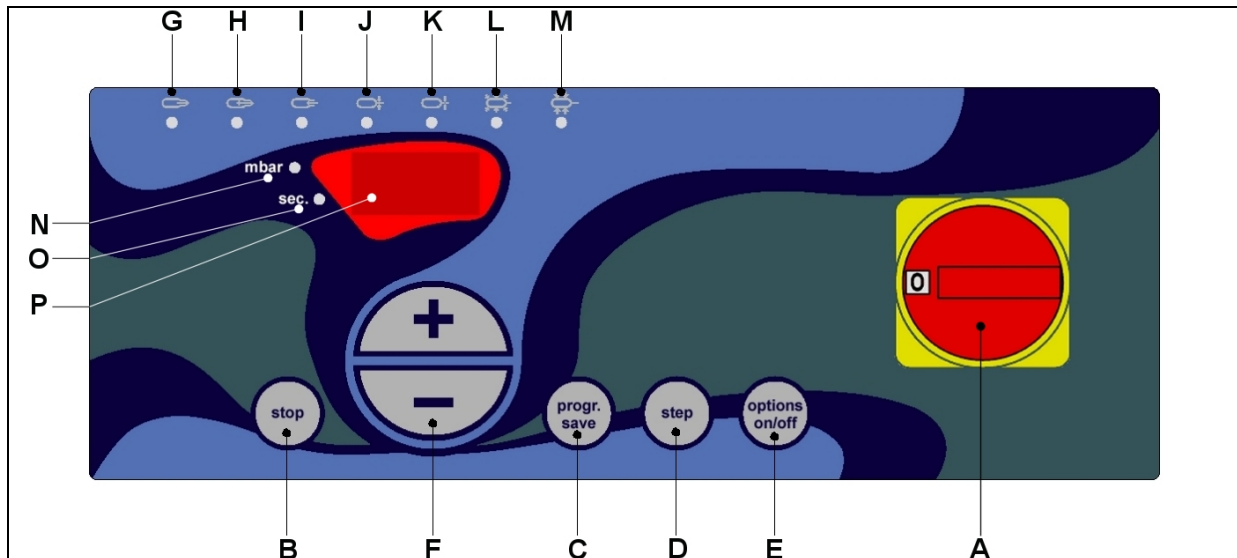

Fig. 5-1: Control panel E-series
1. Switches on the machine with the main switch (Fig. 5-1-A). The control starts up.
2. Push the options on/off-key 5 seconds. At the display the first function with its setting appears (Table 4).